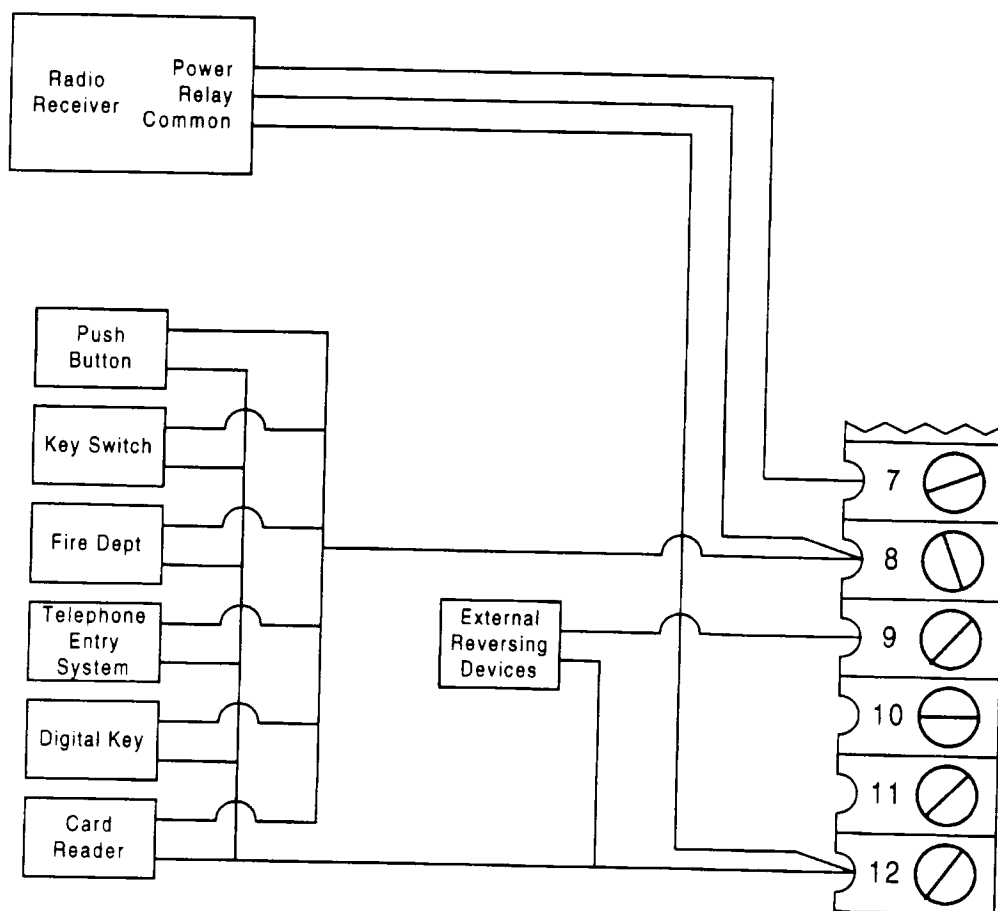

FIGURE 2.3
- Connect optional control devices to the operator terminal strip as shown in figure 2.3. Be sure that all electrical connections are made in accordance with local electrical codes. Use 18 AWG wire for all low voltage wiring, maximum distance 3000 feet. Use a low voltage surge suppresser, DoorKing P/N 1878-010 if low voltage wire runs exceed 1000 feet. All inputs to the terminal strip must be NORMALLY OPEN.